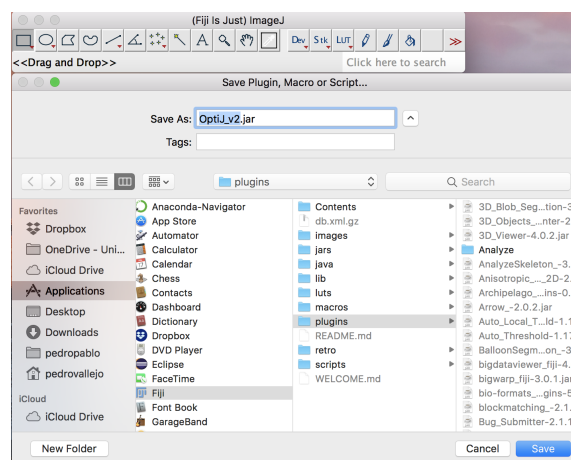

Figure 6: Installing the OptiJ Plugin Library: simply drag and drop the *OptiJ.jar* file in ImageJ and save it in the *plugins* folder.
2. Drag and drop the downloaded jar file into ImageJ as shown in figure 6.